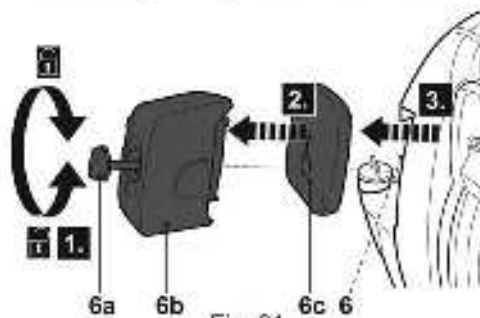

Fig. 21
- > Loosen the fixation screw (6a) and remove it together with the cover (6b) (Fig. 21).
- > Remove the air filter (6c) from the air filter case (6) and tap it on a solid surface to remove dust.
- > Apply a small amount of air filter oil on the filter to increase the performance of the filter. Wring out surplus oil and put the filter (6c) back into the case (6).